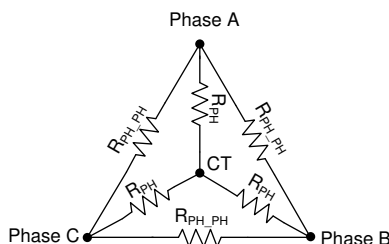

Figure 3-2. Motor Resistance
Step 4: If the motor does not have a datasheet, then measure the phase to phase resistance across any two phases using a Digital Multimeter and calculate the phase resistance by dividing the phase to phase resistance by 2 as shown in equation Equation 2. The motor phase resistance refers to the equivalent phase to center tap resistance, R_{PH} as shown in Figure 3-2. This measurement holds good for both star wound and delta wound motors.